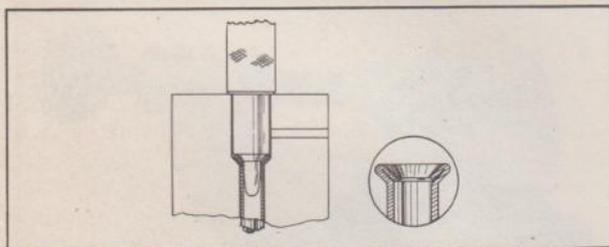

Fig. 10—Finish Flaring Operation
- Next, use the flare forming tool, J-1280-3, having the 45 degree die at its lower end. Insert the tool in the die and strike firm blows, using a one pound hammer, until the shoulder of the tool contacts the top of the die. The cross section drawing, Fig. 10, shows the second and final forming operation in making a double-lap flare.